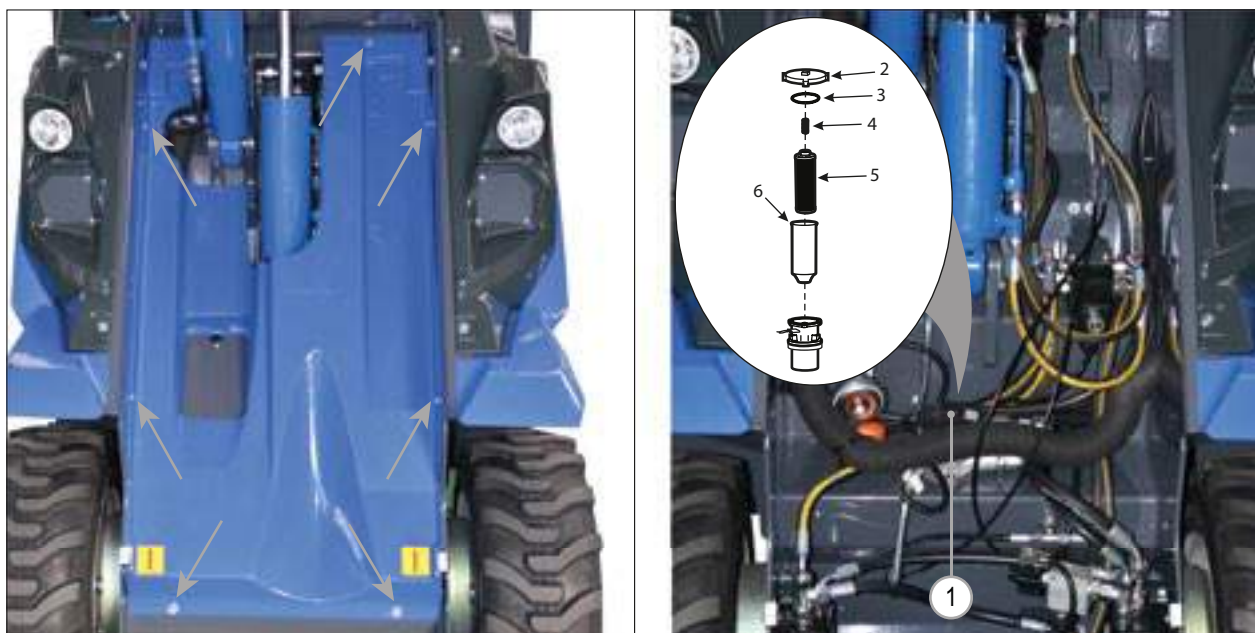

FIG. 39
- 3) Remove the front panel by loosening the screws that secure it to the frame (see FIG. 39).
- 4) Remove the filter cover by rotating the cover. It may be necessary to use a wrench to loosen the cover (FIG. 39 - Ref. 1).
- 5) Remove the spring (FIG. 39 - Ref. 4), and the filter element (FIG. 39 - Ref. 5) from the plastic sleeve (FIG. 39 - Ref. 6).
- 7) Reinstall the spring and inspect the filter cover O-ring for any signs of wear or damage. This O-ring is located in a groove at the top of the filter body (FIG. 39 - Ref. 3). Replace the O-ring in case of wear or damage.
- 8) Reinstall the filter cover (FIG. 39 - Ref. 2) and secure it.